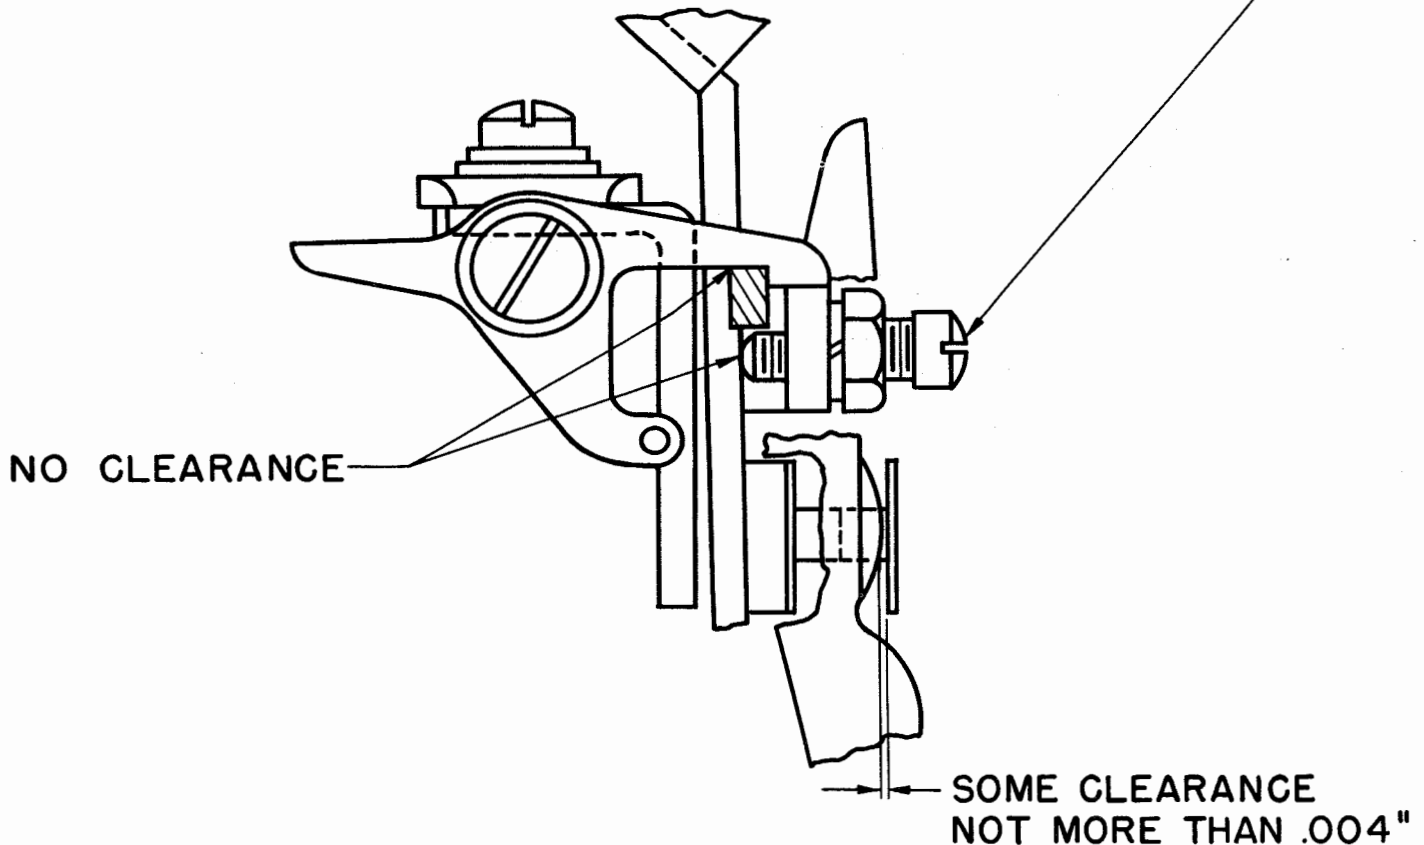

Figure 39
3.36 Punch-contact Operating Lever: There should be some clearance, not more than 0.004 inch, between the insulator on the punch-contact operating lever and the right (long) contact spring when the antichatter lever is resting firmly against its backstop screw and the punch-contact operating lever is held in its latched position by the positive-action latch and the armature is lifted off its left stop approximately 1/16 inch so as to provide clearance. See Figure 39.